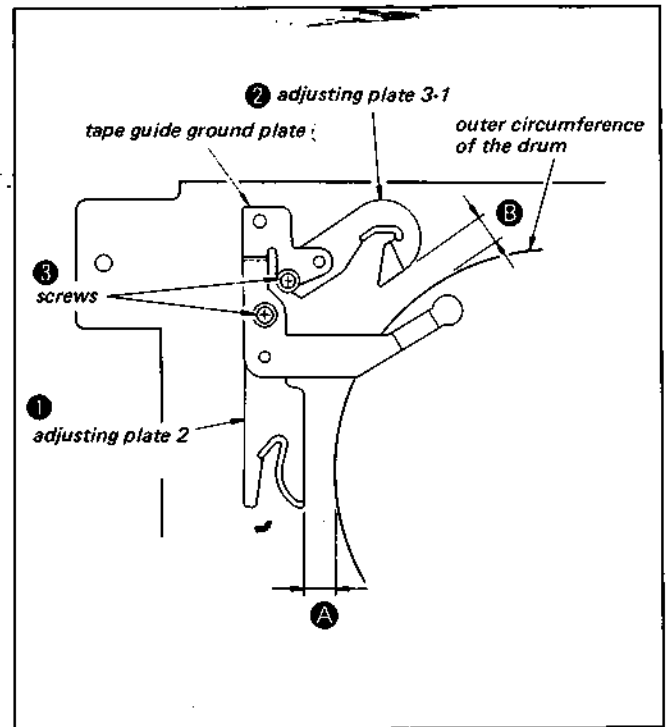

Fig. 3-7. Measurement of the position of adjusting plates 2 and 3-1
- ③ Remove the screws shown in Fig. 3-7, then remove the tape guide ground plate and adjusting plates 1 and 2.
Proceeding in the same manner as in replacement of the drum assembly, measure the width of the gap between the upper drum and the adjusting plates (Fig. 3-7).